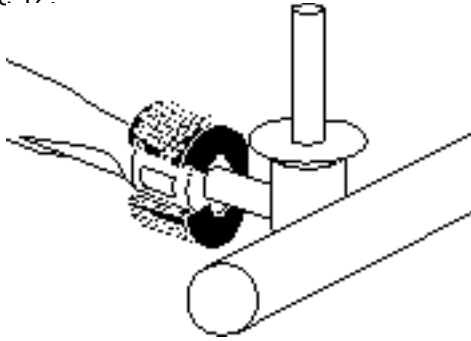

Figure 12
9. Unlatch the Spider Stopper Guards and remove. Figure 12.